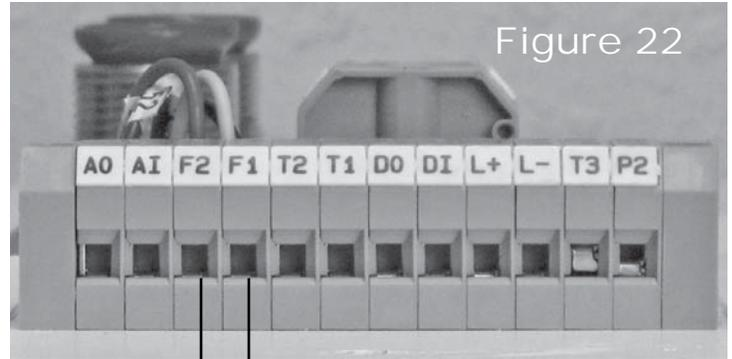

Figure 22
4. Attach each zone wire ran in step 2 to the Aqua-Hot terminal block - position F1 for zone 1 and position F2 for zone 2. Reference Figure 22. Tighten the screw in the terminal to secure the wire in place.